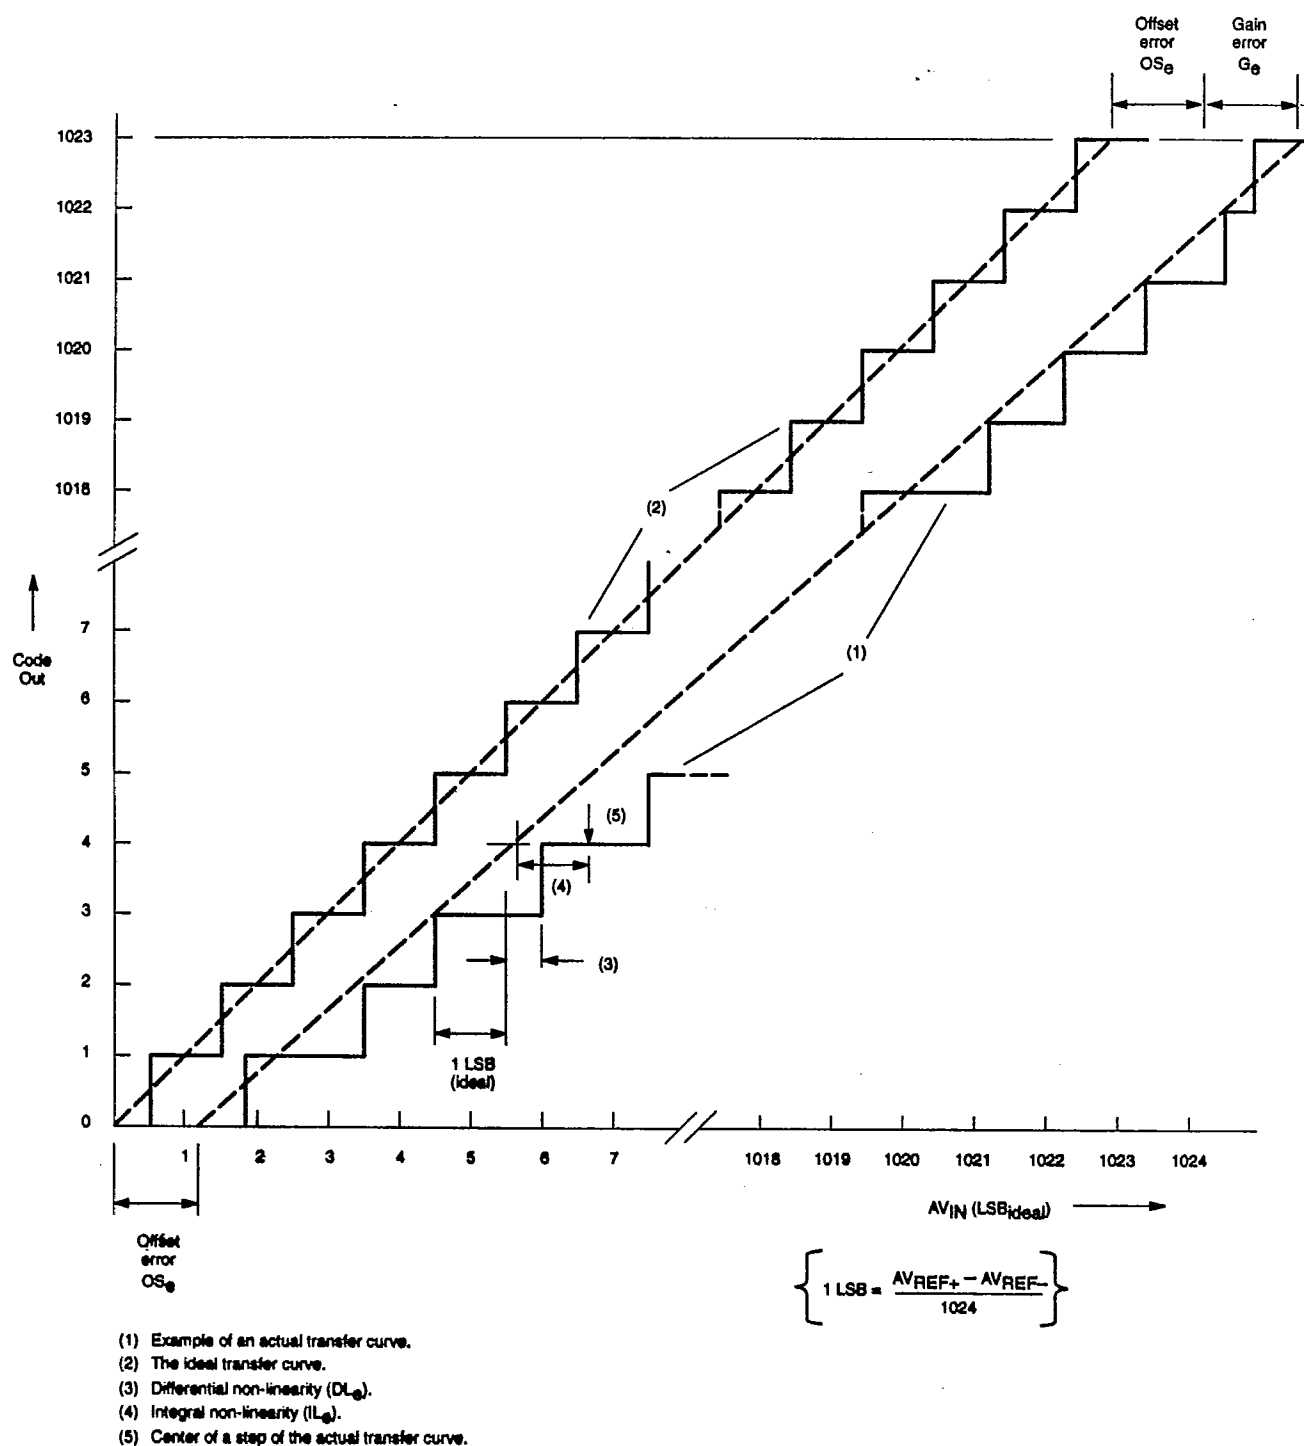

Figure 1. ADC Conversion Characteristic
- The differential non-linearity (DL₀) is the difference between the actual step width and the ideal step width. (See Figure 1.)
- The integral non-linearity (IL₀) is the peak difference between the center of the steps of the actual and the ideal transfer curve after appropriate adjustment of gain and offset error. (See Figure 1.)
- The offset error (OS₀) is the absolute difference between the straight line which fits the actual transfer curve (after removing gain error), and a straight line which fits the ideal transfer curve. (See Figure 1.)
- The gain error (G₀) is the relative difference in percent between the straight line fitting the actual transfer curve (after removing offset error), and the straight line which fits the ideal transfer curve. Gain error is constant at every point on the transfer curve. (See Figure 1.)